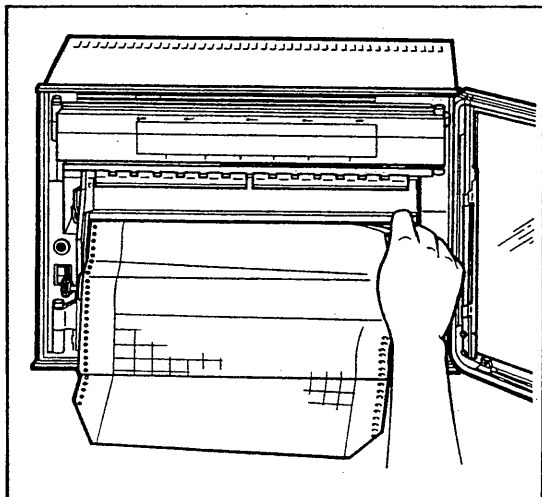

Figure 5-5.
- (5) Put the chart paper onto the chart paper compartment with the chart paper circle perforation holes facing the left side and load the chart paper making sure that the sprocket teeth of the chart drive are properly engaged in the chart paper perforation holes (see Figure 5-5).